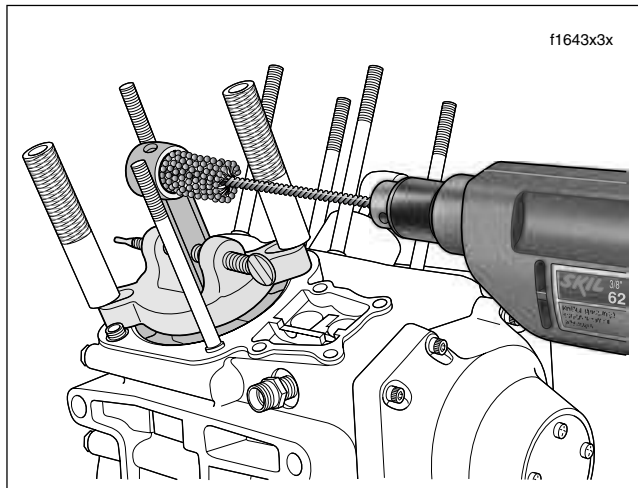

Figure 3-98. Hone Connecting Rod Bushing
- d. Activating the drill, move the entire length of the finishing stone arrangement forward and backward through the bushing bore for 10 to 12 complete strokes. See Figure 3-98. Work for a crosshatch pattern of approximately 60°.